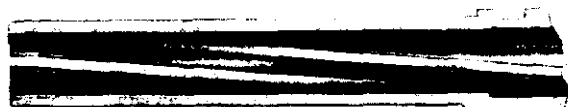

Figure 23. Interior of barrel showing slight pitting and sharp lands - cutaway view.
spect the barrel for pitting, bulges, and sharpness of lands (figs. 23 through 25).
d. Pits as wide as a land or groove and less than three-eighths inch are allowable. Barrels containing pits as indicated in figures 23 thru 25 will be rejected.